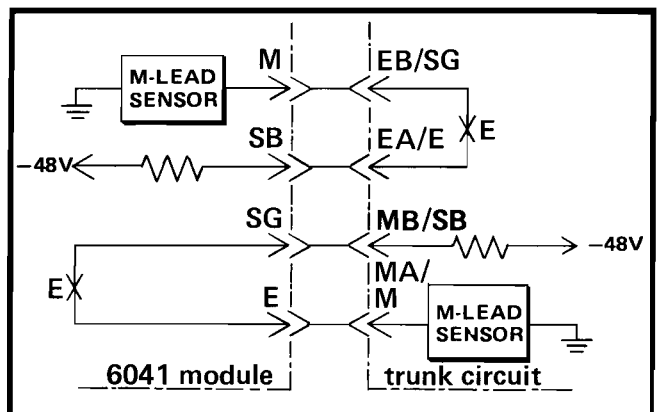

figure 4. Type II/DX2 interface
1.05 When the 6041 is optioned for Type II E&M-lead interfacing, DX2 operation (M-lead output, E-lead input) can be implemented via an external wiring change (see paragraphs 2.03 and 3.04). Figure 4 in section 2 of this Practice shows the Type II/DX2 interfacing arrangement.
these situations. The Type-II/DX2 signaling interface is shown in figure 4.